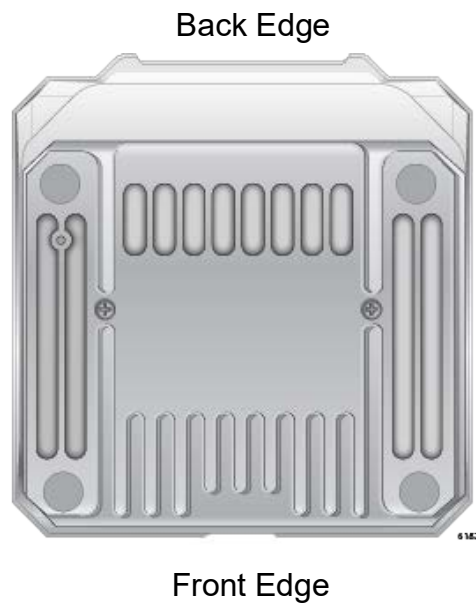

Figure 2. Access Point Bottom View
The bottom view is illustrated in Figure 2.
- Cable Hide** The top cover of the access point is larger than the access point chassis to create space on the back for cable connectors and cables shown in Figure 2 on page 16.